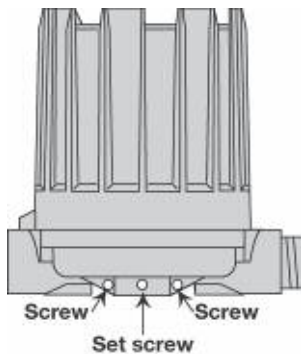

Figure 2
1. Loosen set screw(s) at base of switch housing. Refer to Figure 2.
16. Loosen the set screws at the base of the switch housing. Rotate switch housing to correct position and tighten set screws. Refer to Figure 2 on page 6.